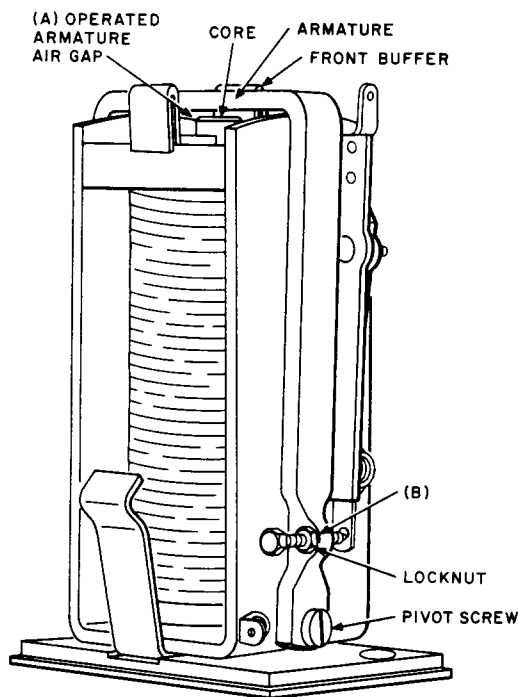

Fig. 5 — 85F-Type Relay — Showing Operated Air Gap and Locknut on Contact Screw
2.10 Operated Armature Air Gap — Fig. 5(A) :
2.13 *Tightness of Locknut* — 85F-Type Relay: The locknut on the contact screw shall be sufficiently tight to hold the screw in the adjusted position. Gauge by feel. See Fig. 5(B).